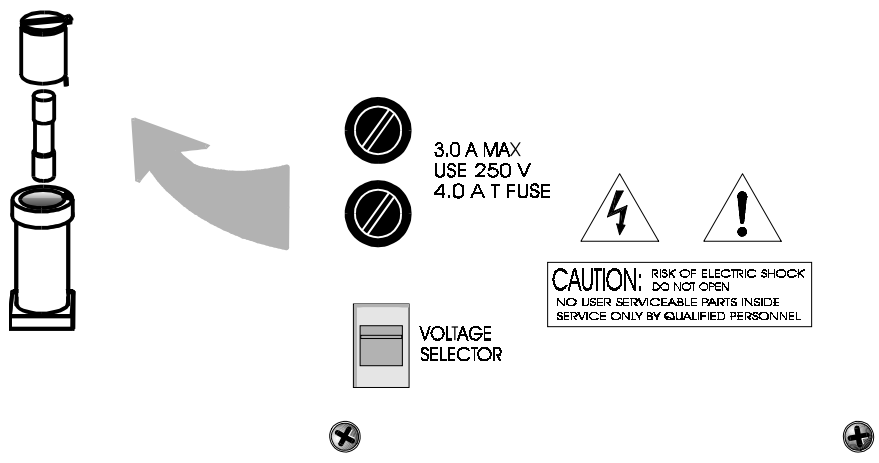

Figure 5-1: Removing Fuse Cap and Fuse from Holder
The 2020 requires two 5 x 20 mm, 4 A, T type (Slow Blow) fuses. The fuses are located inside the explosion proof housing on the Electrical Connector Panel, as shown in Figure 5-1. To replace a fuse:
2. Place a small screwdriver in the notch in the fuse holder cap, push in, and rotate 1/4 turn. The cap will pop out a few millimeters. Pull out the fuse holder cap and fuse, as shown in Figure 5-1.